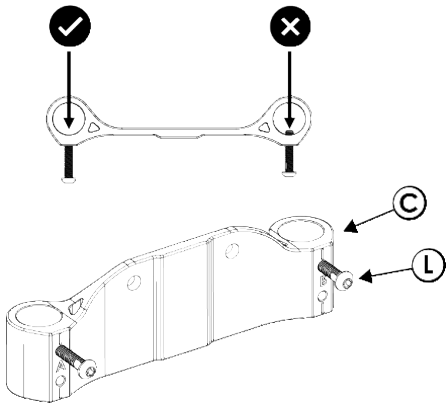

FIGURE 6
6. Partially thread **L** into upper holes in **C**. Do not thread too far - L should not block assembly of legs. See *FIGURE 6*.